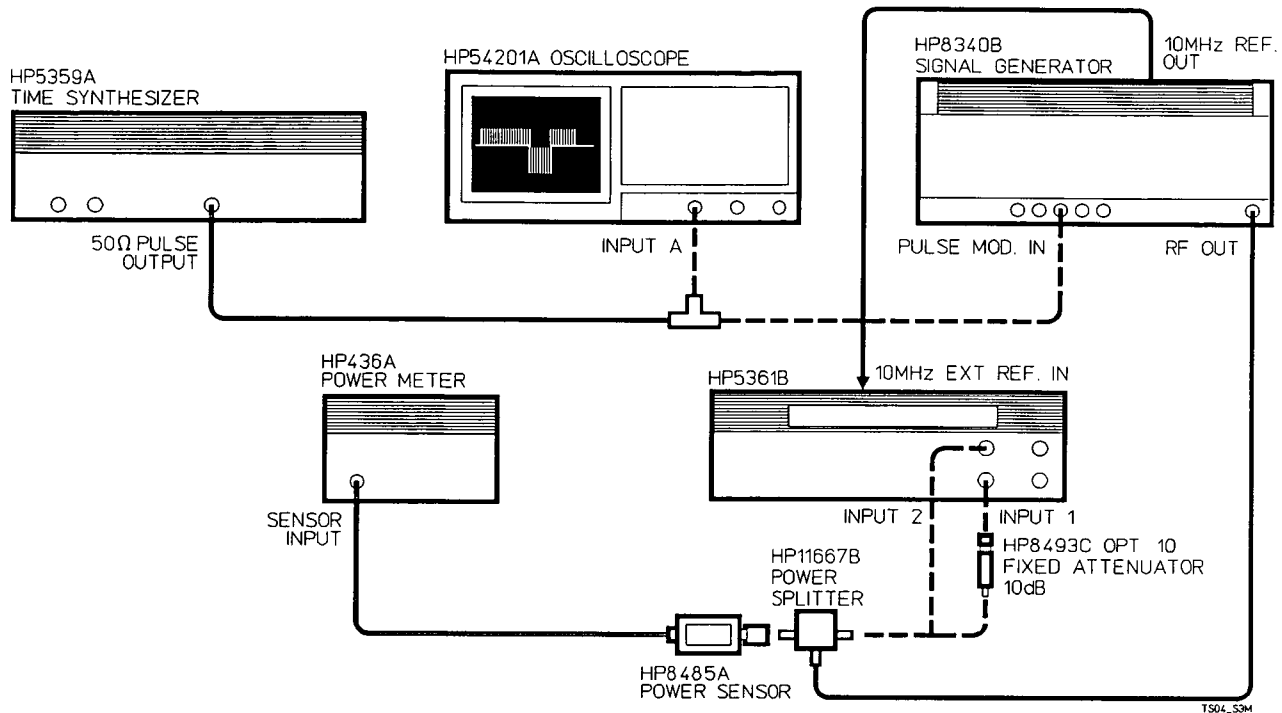

Figure C-1. Setup 1: CW/Pulse, 10 MHz - 26.5 MHz
Description: The counter is set to the 10 MHz - 525 MHz range, 50 Ω impedance, and a 25 mV rms (-19.3 dBm) signal is applied to Input 2 as shown in *Figure C-1*. The test generator is set to selected frequencies and the 5361B is checked for proper
Description: The counter is set to the 500 MHz - MAX GHz range and the appropriate input signal is applied to INPUT 1 as shown in *Figure C-1*. The generator is set to various frequencies/levels and the actual sensitivity of the HP 5361B is then measured.
2. Connect the equipment as shown in *Figure C-1* (INPUT 1 path). Do not install the 10 dB attenuator pad for CW measurement.
The following specifications, setup illustration, and test steps describe the INPUT 1 pulsed RF sensitivity for the HP 5361B within 500 MHz - MAX GHz frequency range. *Figure C-1* shows the test setup.